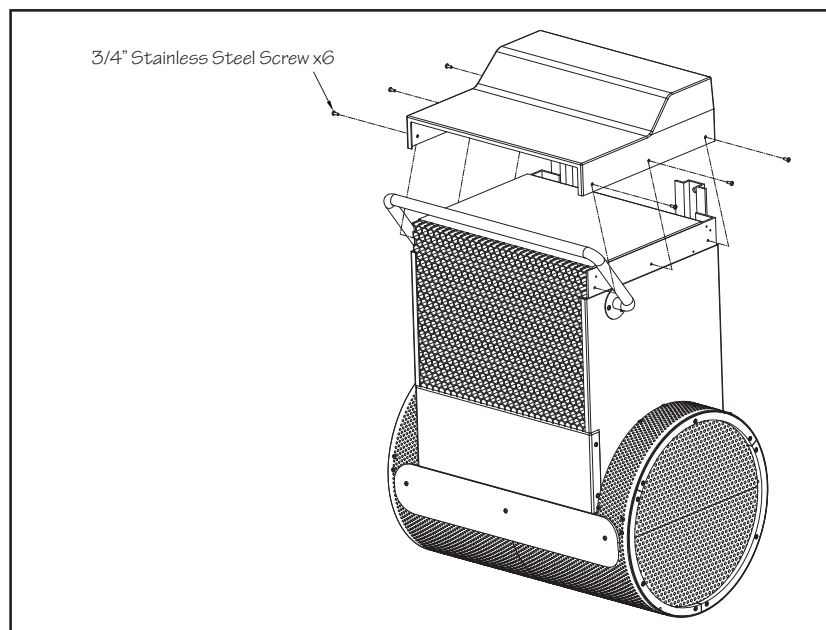

Fig. 6.12
- 6.14 Once the Fastlane is installed in the pool, place the housing lid onto the housing and use the provided screws to attach. There will be three screws per side, for a total of six (Fig 6.12).
9.6 Place the Fastlane lid onto the top of the Fastlane and use the six 3/4" stainless steel screws that were provided (3 on each side) (See Fig 6.12).